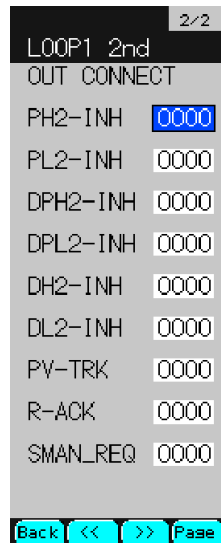
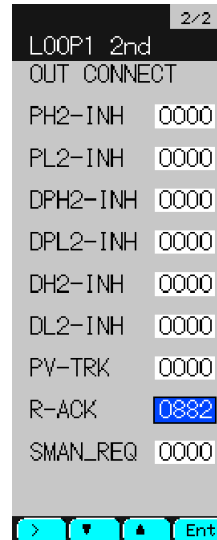

Fig. 4-25
Fig. 4-26
- ⑨ Press the “Page” to display “LOOP1 2nd” screen. (Fig. 4-25)
- ⑩ Press the chameleon change key  for selecting “>”, “▼”, “▲” and “Ent” in the chameleon key display area.
- ⑪ Operate “>”, “▼”, “▲” and “Ent” keys for setting “R-ACK” = “0882” and enter it (Fig. 4-26).